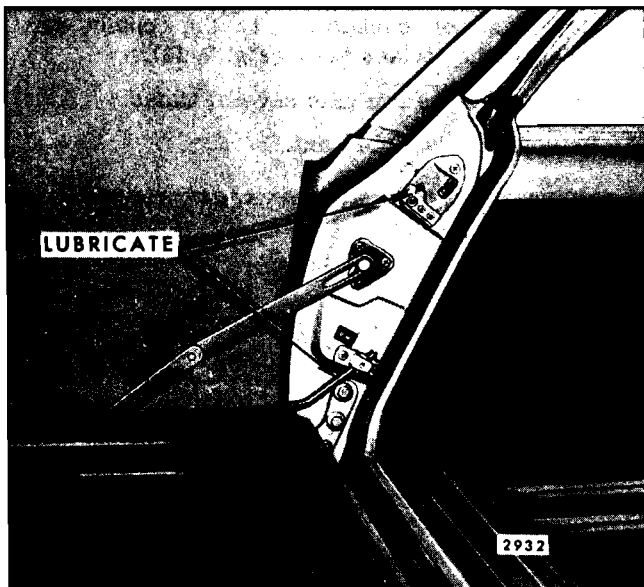

Fig. 2-13—Tailgate Lock Striker and Torque Rod - Conventional Tailgate
2. Apply a thin coat of grease stick lubricant (Doorease or equivalent) to the contact surfaces of the striker teeth (Fig. 2-13).
1. a. Apply white lithium soap grease (Auto-Lube "A", Part No. 1050110 or Spray-Lube "A", Part No. 1050520 or equivalent) to the circumference of the tail gate torque rod which passes through the nylon guide of the torque rod retainer as indicated in Figure 2-13, for conventional tailgates.